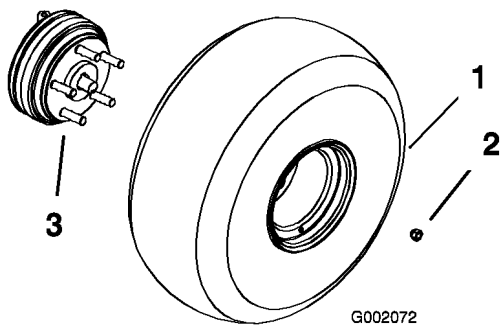

Figure 3
3. Mount the wheels with the previously removed fasteners (Figure 3) and torque to 45-65 ft-lb (61-88 N·m).